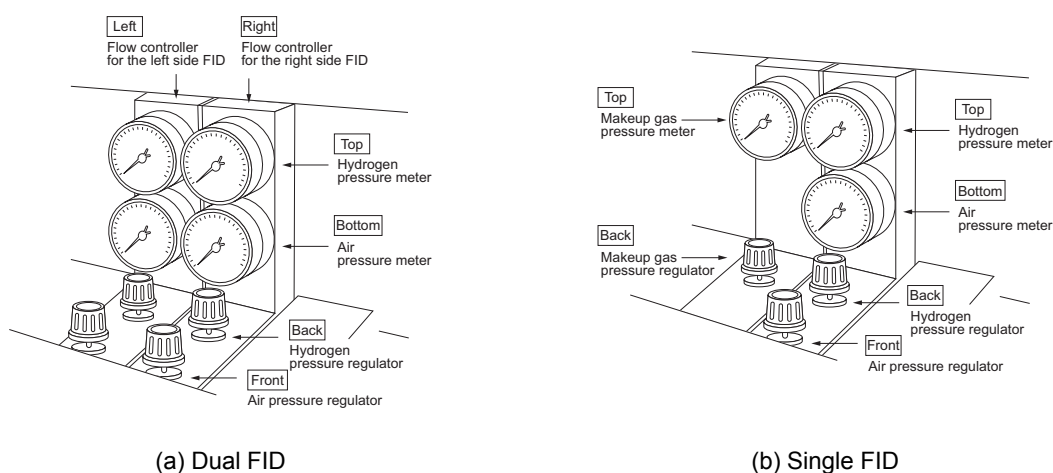

Fig. 13.1.3 Manual flow controller for FID
- Layouts for the models with the dual FID and models with the single FID are as shown in Fig. 13.1.3 (a) and Fig. 13.1.3 (b) respectively.